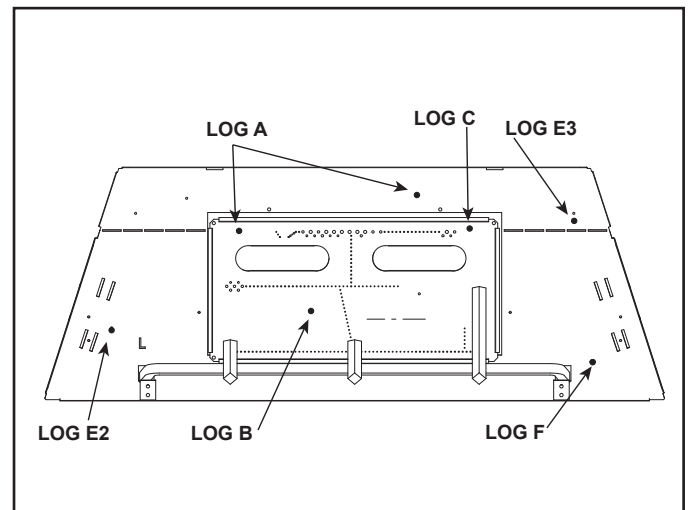
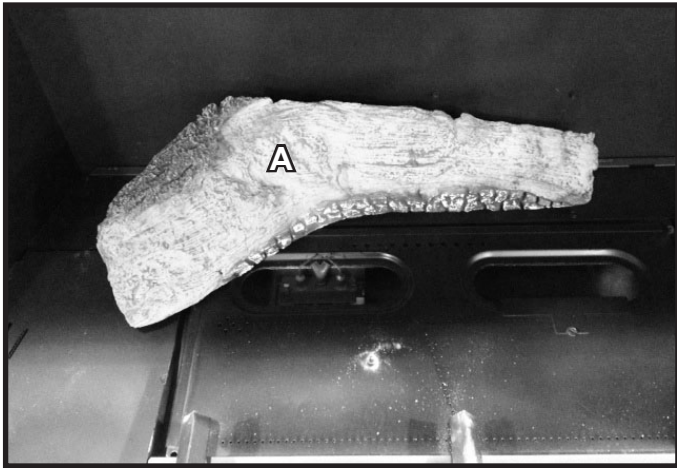
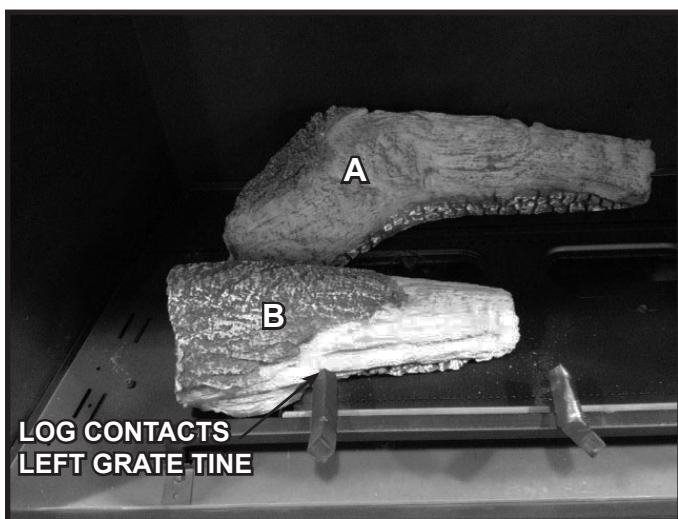
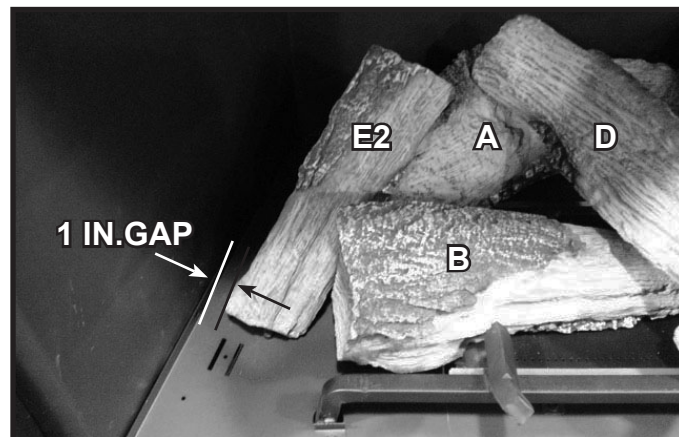

Figure 4. LOGSDBDV42 Log Pin Locations
Figure 5. Log A Installed
Figure 6. Log B Installed
Figure 11. Log E2 Installed
1. **(LOG A):** Locate the two pin holes on the bottom of Log A. Hold the log so that the flat spot is facing the rear of the appliance and the pin holes are facing the base pan. Place Log A over the two pins referenced for Log A in Figure 4. Refer to Figure 5.
2. **(LOG B):** Locate the pin hole on the bottom of Log B. Place pin hole on Log B over the pin referenced for Log B in Figure 4. Hold the log over the pin and rotate the left side of the log until it contacts the left grate tine. See Figure 6.
6. **(LOG F):** Place Log F into appliance as shown in Figure 10. The burned out end of the log should rest on Log C and contact Log E1. The unburned end of Log F should rest against log pin F, as shown in Figure 4, and contact the back of the lower grate tine as noted in Figure 10.
7. **(LOG E2):** Place Log E2 into appliance as shown in Figure 11. The base of the log should be positioned against the pin indicated in Figure 4 for Log E2. The top side should rest against Log A. The base end of Log E2 should be approximately one inch from the left side of the firebox if no refractory is present. This distance will be about 1/4 inch if the optional brick refractory is installed or 3/4 inch if the optional black glass refractory is installed.